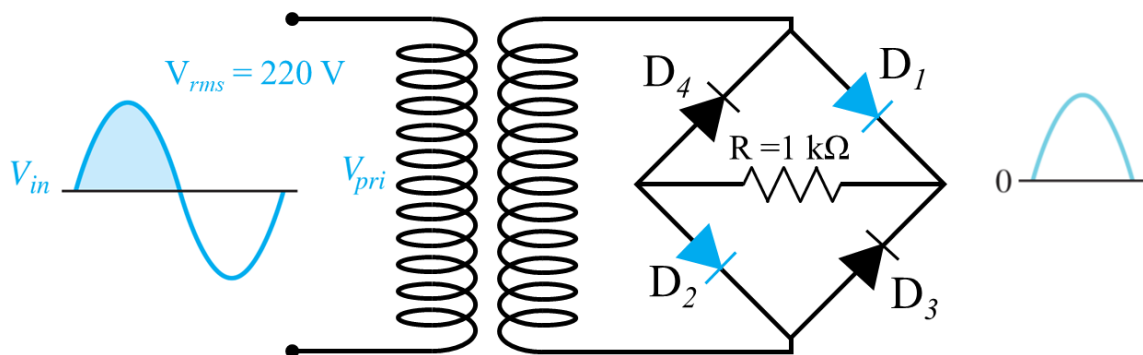

Figure 1: During positive half-cycles,  $D_1$  and  $D_2$  are forward-biased, and  $D_3$  and  $D_4$  are reverse-biased
The circuit of a full wave bridge rectifier uses four diodes  $D_1$ ,  $D_2$ ,  $D_3$  and  $D_4$  connected as shown in Fig. 1. During the positive half cycle of secondary voltage, the diodes  $D_1$  and  $D_2$  are forward-biased, and  $D_3$  and  $D_4$  are reverse-biased. Therefore, the diodes  $D_1$  and  $D_2$  conduct, and current flow through load resistor  $R_L$ .
1. Connect the circuit as shown in Fig. 1 using a standard transformer, four diodes, a  $1k\Omega$  resistor ( $R_L$ )